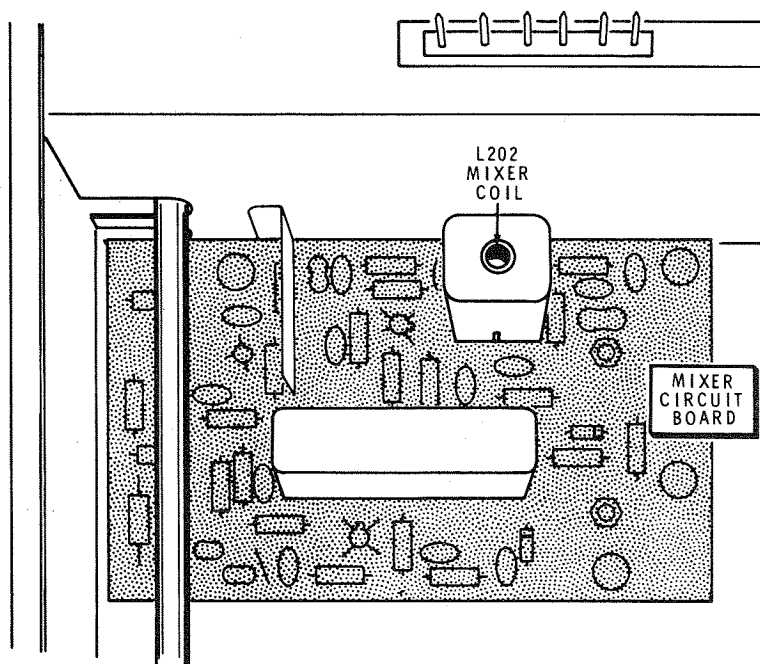

Figure 21
- () Refer to Figure 21 and adjust mixer coil L202 for a maximum meter reading.